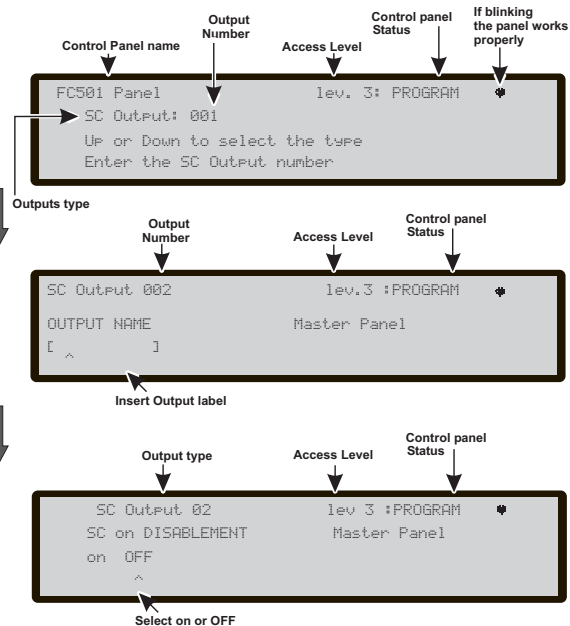

Figure 46 Pages of Selecting and programming SC active on disablement.
0) While the panel is running, it will be possible to load the two languages present in the USB key flash memory (previously downloaded from the CD supplied with the panel or from the FireClass site), see the diagram of operation in figure 46.